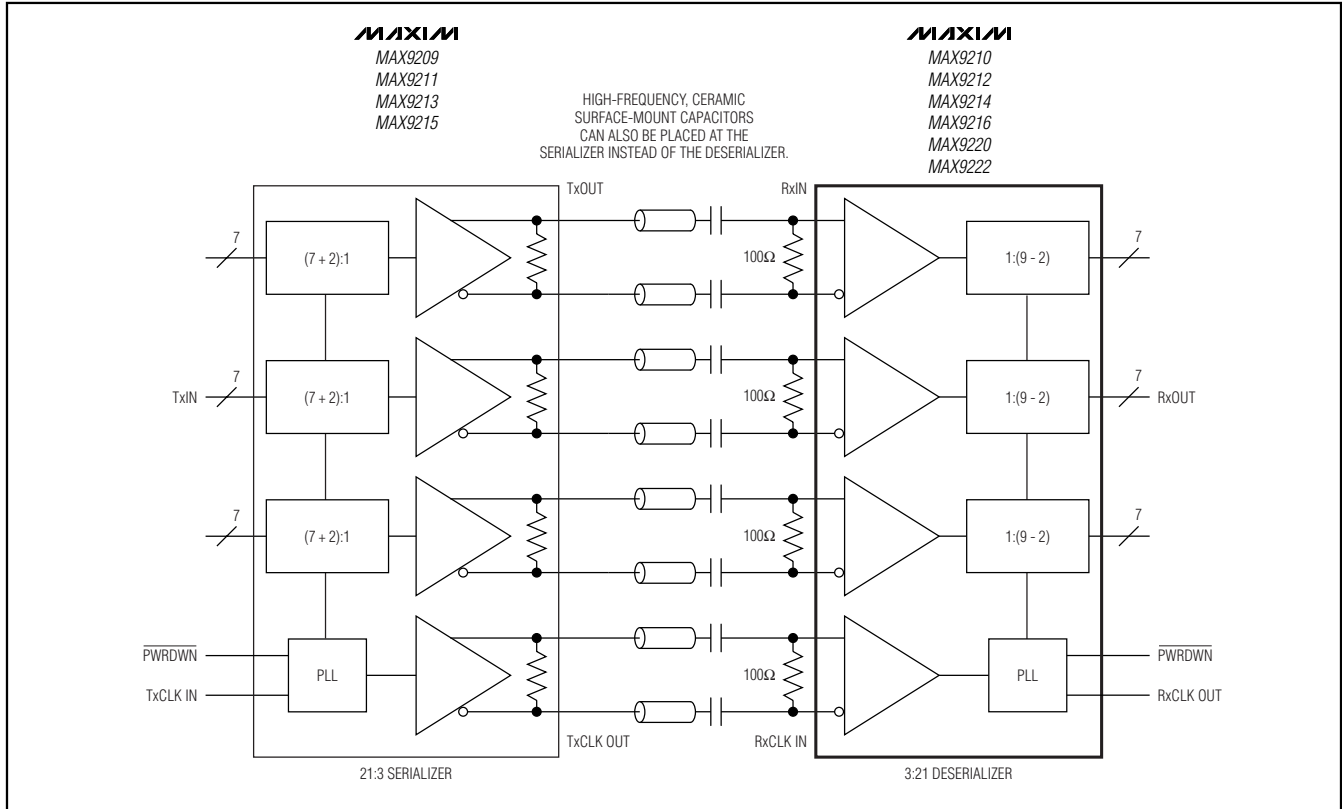
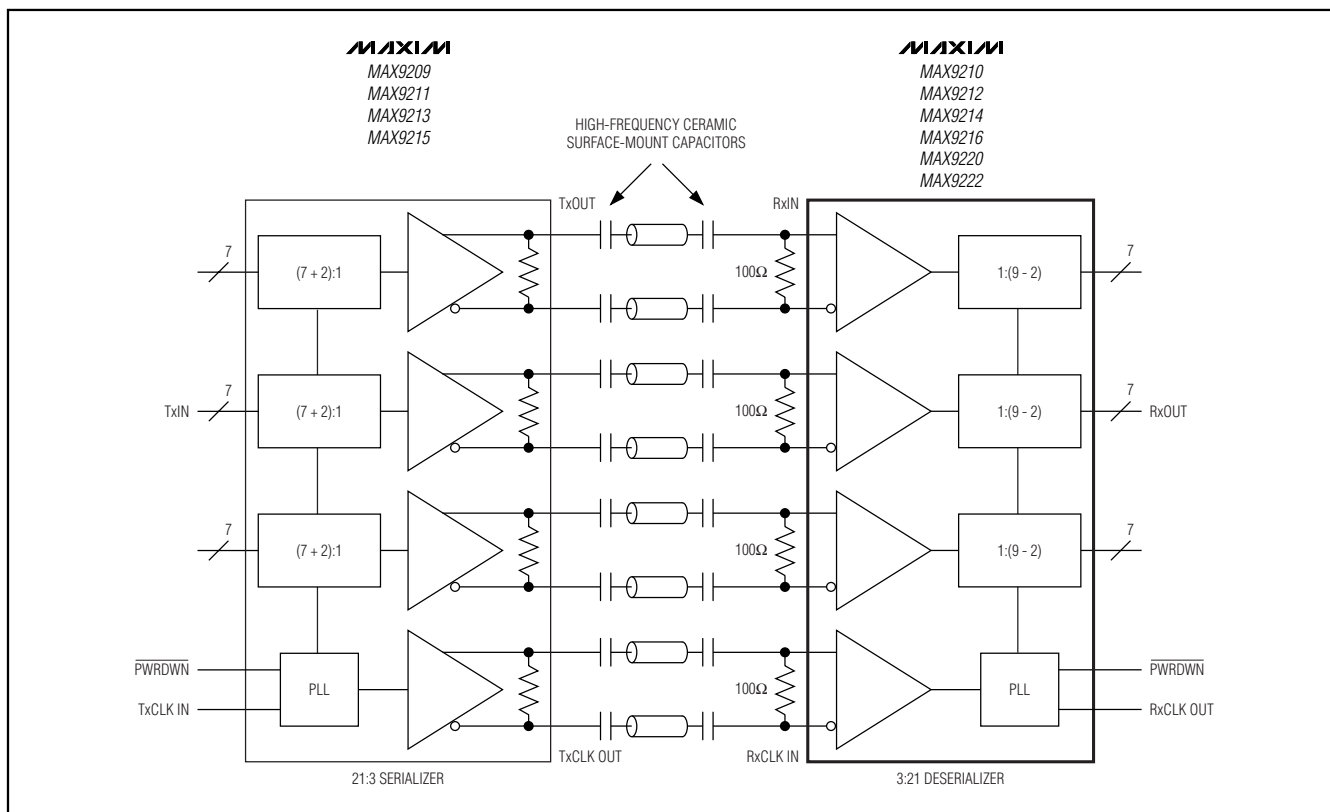

Figure 12. Two Capacitors per Link, AC-Coupled, DC-Balanced Mode
Figure 13. Four Capacitors per Link, AC-Coupled, DC-Balanced Mode
The RC network for an AC-coupled link consists of the LVDS receiver termination resistor (R_T), the LVDS driver output resistor (R_O), and the series AC-coupling capacitors (C). The RC time constant for two equal-value series capacitors is $(C \times (R_T + R_O))/2$ (Figure 12). The RC time constant for four equal-value series capacitors is $(C \times (R_T + R_O))/4$ (Figure 13).
Equation 1 is for two series capacitors (Figure 12). The bit time (t_B) is the period of the parallel clock divided by 9. The DSV is 10. See equation 3 for four series capacitors (Figure 13).
Equation 1 altered for four series capacitors (Figure 13) is: